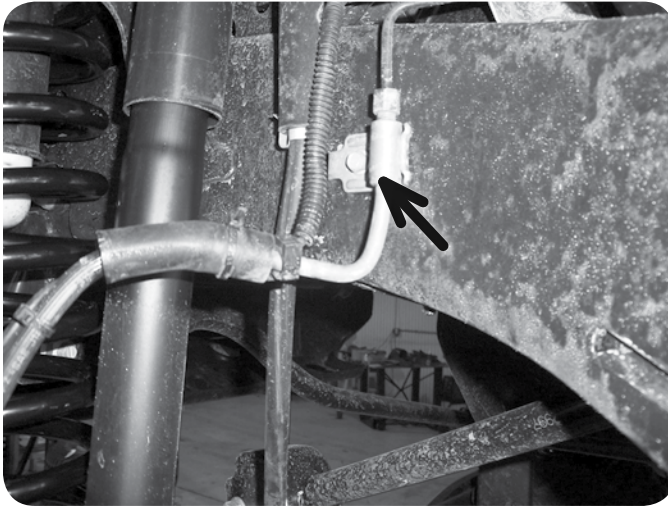

Figure 6A - Before
24. Reconnect the front brake line brackets to the original mounts on the frame rails with the factory bolts. Tighten bolts securely. Check the slack in the brake lines by turning the wheels from lock-to-lock. It may be necessary to slightly reform the brake line hardline at the frame down about 10-15 degrees to provide more slack in the line (**Figure 6A/B**). Carefully bend the hard line with your hands.